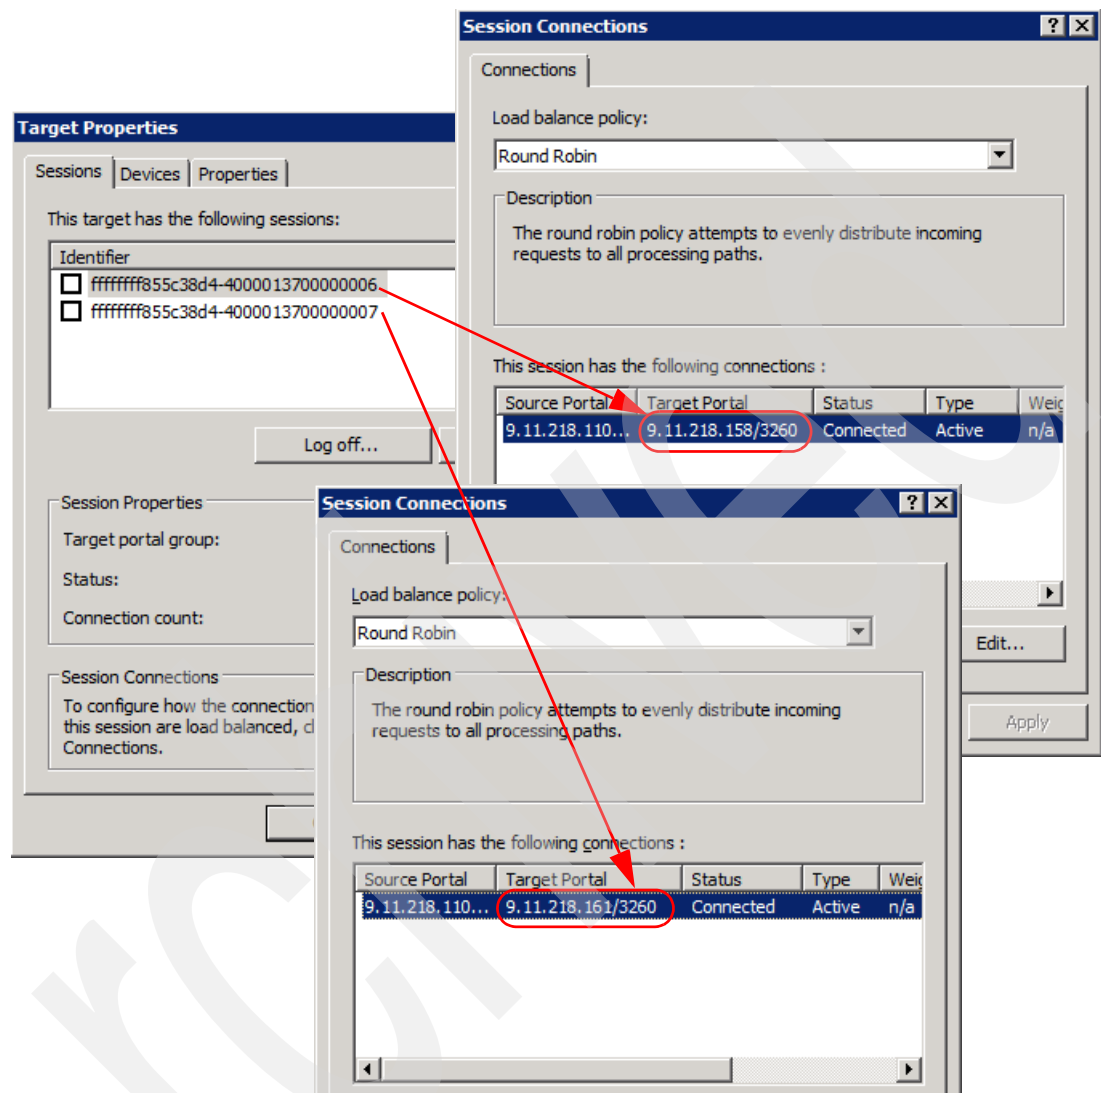

Figure 3-35 Displaying target path sessions
11. Click **OK** to finish the Advanced Settings, and **OK** again to finish the log on process. The status of the Target remains in connected state, but click **Details** to observe both paths defined, as shown in Figure 3-35. Make sure that the paths are correctly defined.